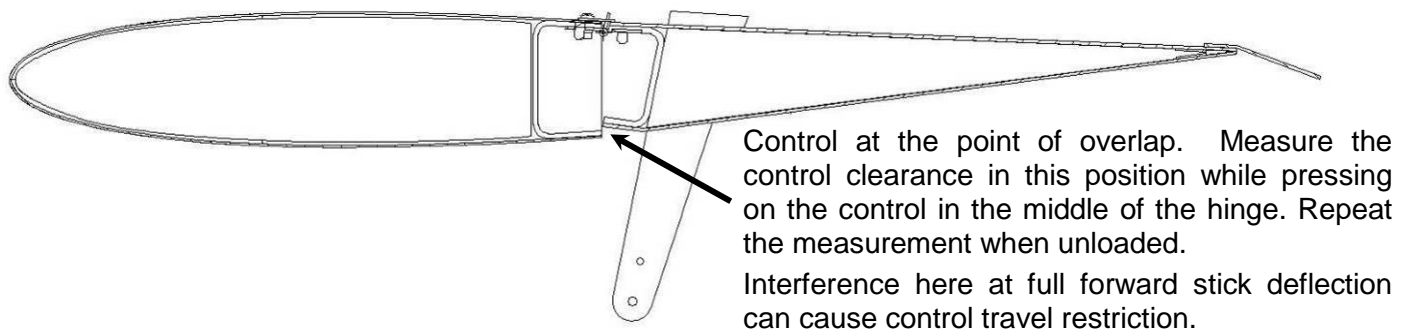

**Figure 21 – Aileron Clearance (all J-Series)**
- **Control gap** – Best shown on Figure 21 (left). If the control passes the point of overlap a gap opens between the aircraft and the control. A gap like this combined with excess flexing of the control surface hinges will lead to control surface jamming.
- Check each control by moving it to its maximum deflection and inspecting for a control gap – as shown in the example of Figure 21.
- Set the controls so that the control being tested is at the point of overlap – as shown in the right picture in Figure 21. If the control being tested does not deflect to a point of overlap then place it as close as possible to the overlap point.